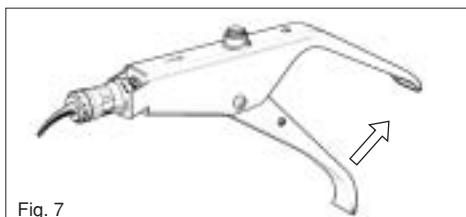

Fig. 7
b) Make 2 strokes with lever to prime the capsule. Make the third stroke slowly to check if the cement is extruded in the nozzle. Direct the capsule nozzle into the restoration or prepared tooth cavity and make slowly the fourth stroke to allow smooth dispensing of the cement (Fig. 7). Avoid putting too much force onto the applier.